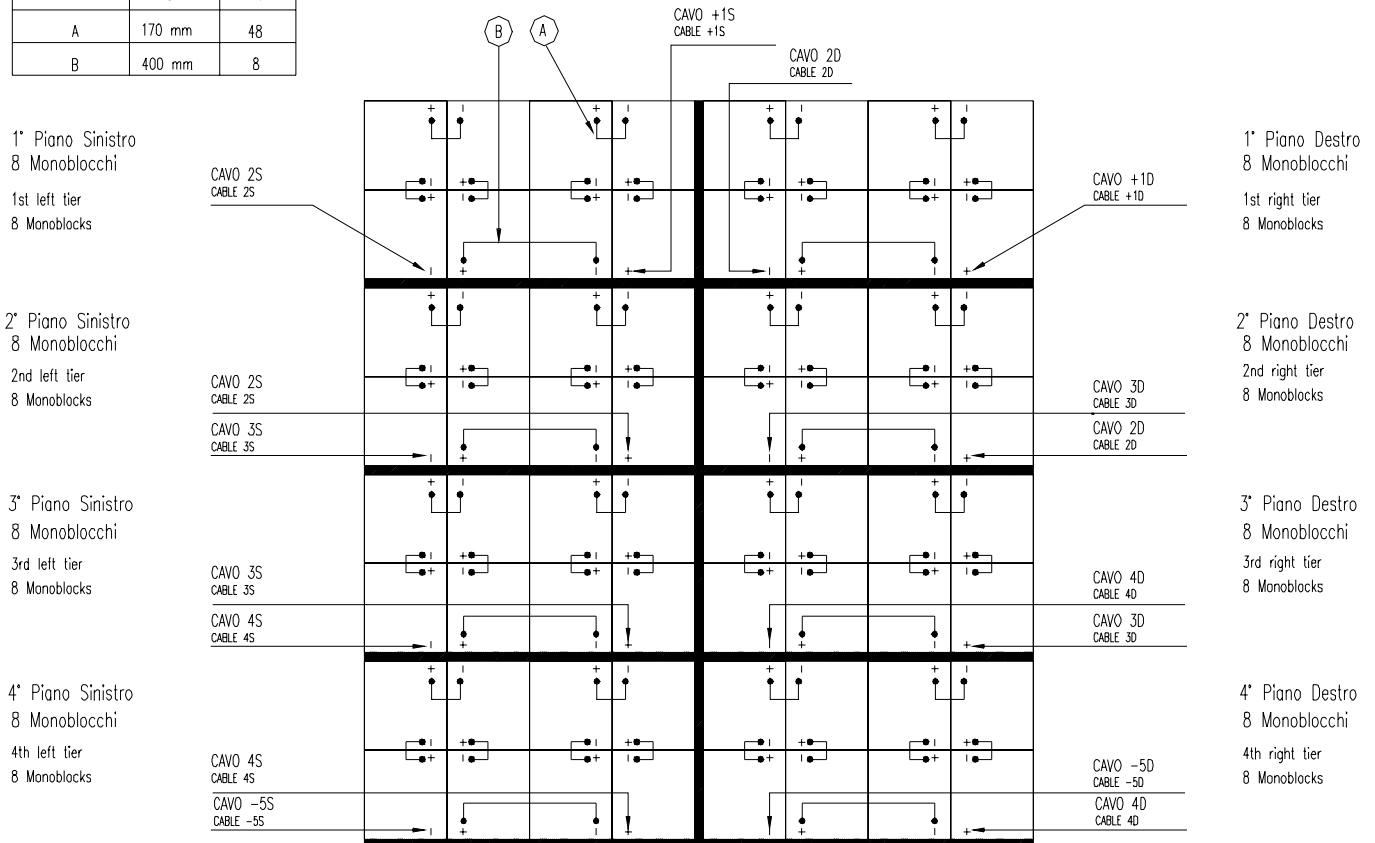

FIG. 1.16.11 BC4HD Battery layout
- Place eight battery blocks on the left and right trays of the first, second, third and fourth level (see fig. 1.16.11 on previous page).